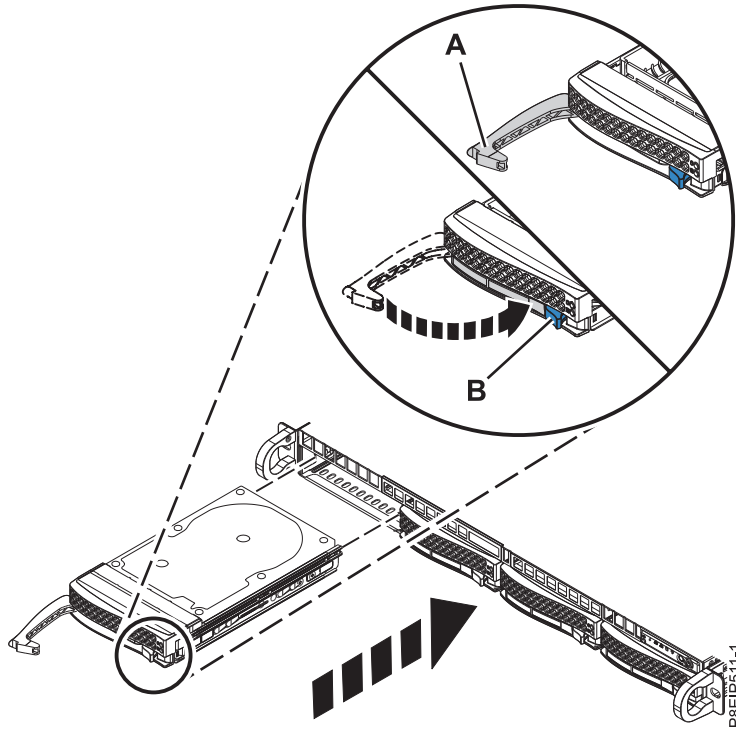

Figure 4. Disk drive lock detail
4. Lock the drive bay handle (**A**) by pushing in the handle release until it locks at (**B**) as shown in Figure 4 on page 7.